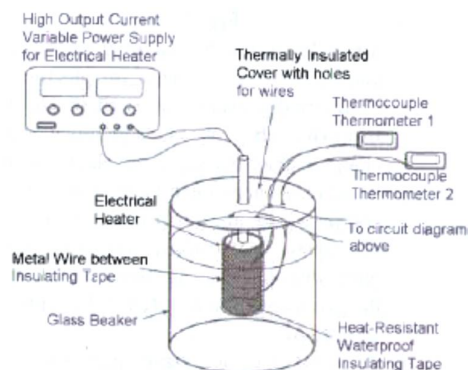

Fig. 8.2
- Refer to Fig. 8.2. Wrap an electrical heater with heat-resistant waterproof insulating tape. Wind the test wire around the electrical heater with the probes of the two thermocouples at the two ends of the test wire. Wrap another layer of the same tape around the test wire.